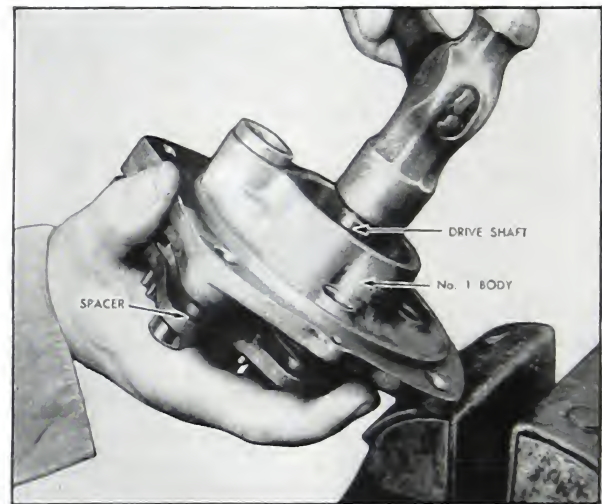

Fig. 5-25. Removing gears from Number 1 body
6. Tap the gear pump drive shaft from Number 1 gear body. This releases the gear, shaft and spacer plate from the Number 1 body. (Fig. 5-25).